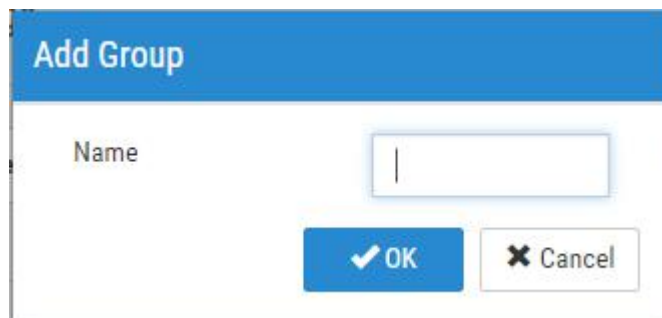

Fig. 4.3-2 Add a new group
(2) After click the "  " button, the "Add Group" dialog will pop up, as shown in Fig. 4.3-2. Input a name for the group, and click the "OK" button, an FBox group will be added.